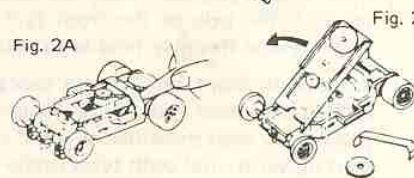

Fig. 2A
2. **DISMANTLING CHASSIS (FIG.2A)** Taking an AFX chassis apart is easy if you refer to the appropriate exploded view diagram. Remove gear clamp by prying it off with a small screwdriver or AFX Quikee-Lok tool.